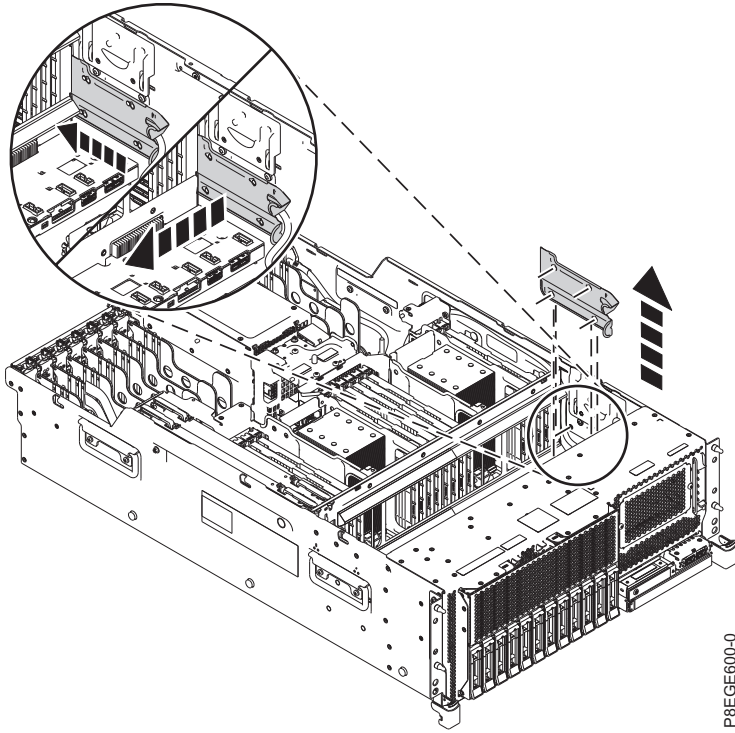

Figure 1. Removing the USB cable cover
4. Remove the USB cable cover on the side of the system chassis. Grasp the top handle of the cover and pull out and away from the side of the chassis. Push the cover toward the rear of the system until the slots on the cover clear the pins on the side of the chassis, then remove the cover. See Figure 1 on page 4.